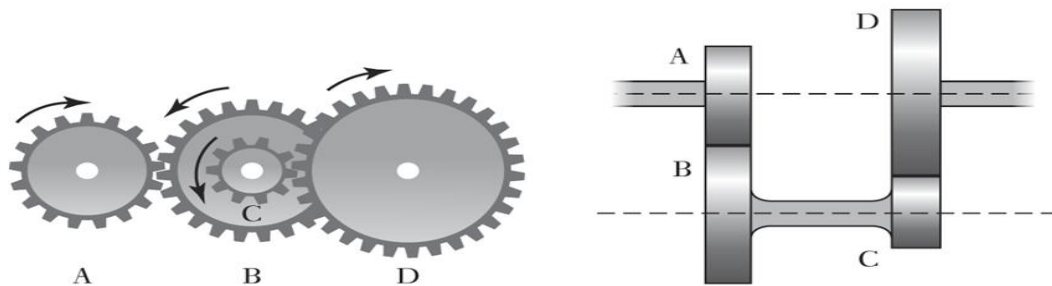

Figure 5: Compound Gear Train
- (a) Consider compound gear train A, B, C and D in **Figure 5**. If there are 15 teeth on wheel A, 30 teeth on wheel B, 18 teeth on wheel C and 36 teeth on wheel D, find the overall gear ratio of the angular velocities at the input and output shafts.